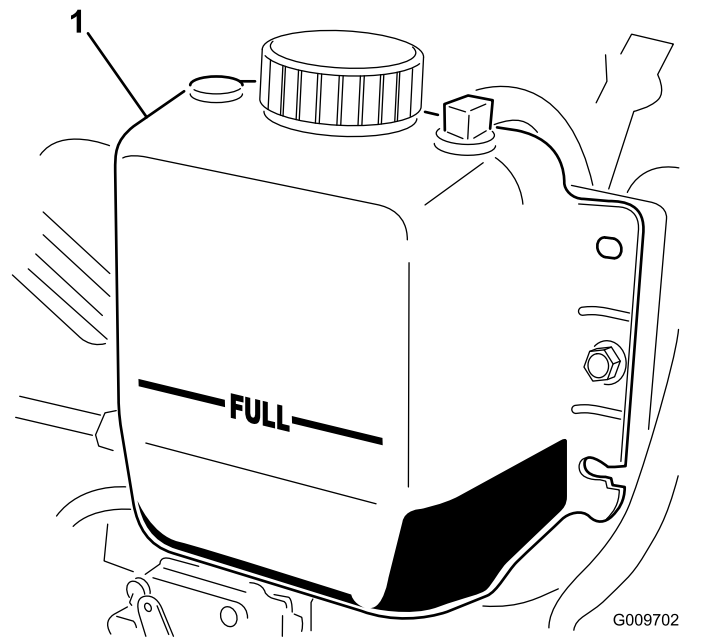

Figure 112
**Note:** The radiator should be filled to the top of the filler neck and the expansion tank filled to the Full mark (Figure 112).